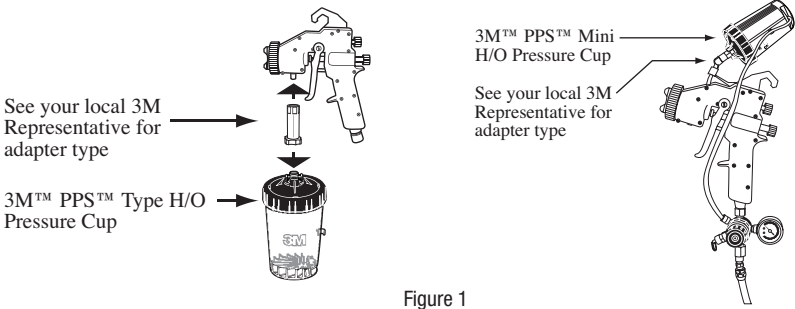

Figure 1
- **Requires the use of a 3M™ PPS™ spray gun adapter (sold separately) to attach the 3M™ PPS™ Type H/O Pressure Cup to the spray gun. Reference Figure 1.**
1. Insert optional 3M™ PPS™ Mix Ratio Film Insert (3) into the 3M™ PPS™ Type H/O Pressure Cup (1) if desired. Otherwise, insert a 3M™ PPS™ liner (4) into the 3M™ PPS™ Type H/O Pressure Cup (1) and add the desired amount of material to be sprayed.
2. Insert a 3M™ PPS™ lid (5) onto the 3M™ PPS™ liner (4) and press down until secured.
3. Align the opening on the Retaining Collar Shroud Assembly (6) with the 3M™ PPS™ lid lock tabs (5a) and screw the Retaining Collar clockwise onto the 3M™ PPS™ Type H/O Pressure Cup (1) and hand-tighten.
4. If the material will not be sprayed immediately, a 3M™ PPS™ plug (7) can be inserted into the lid spout to seal contents.
5. When ready to spray the contents, remove 3M™ PPS™ plug (7) if used, and connect the spray gun with the previously installed 3M™ PPS™ adapter to the 3M™ PPS™ Type H/O Pressure Cup. Reference Figure 1.
6. Attach the cup pressure hose (2) from the spray gun to the pressure port (1b) on the 3M™ PPS™ Type H/O Pressure Cup. The hose clip on the cup (1a) may be used to hold the hose securely in place while spraying.